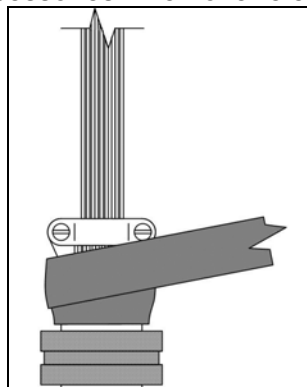

Figure 1
3.3.2 Begin wrapping the StretchSeal Tape around the connector to be protected, behind the coupling ring (nut). Stretch the tape 25 to 50% to ensure good compression around the connector body and rear accessories. Remove release film as required. (see figure 1)